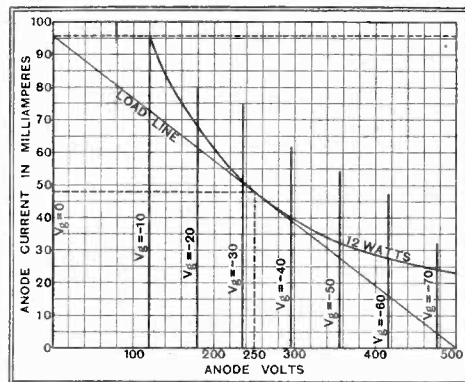
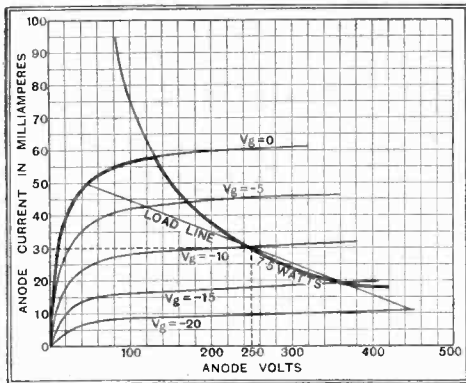

Fig. 4.—An unattainable ideal; the load diagram for a perfect valve.
Fig. 6.—Showing why a pentode is inherently more efficient than a triode.
Looking about, as we all must be in these days, for causes of waste, we see that if the left-hand boundary were removed the load-line area could expand without affecting the input power area. To make the boundary disappear the valve curves would have to be vertical, and as a vertical line means zero resistance, it is the same thing as saying that the valve would have to have no A.C. resistance. This is not practicable, but Fig. 4 shows what the diagram for a perfect valve would look like. It is quite obvious that the load-line area is four times as great as the input power area, so the output is half as great as the input. Thus the maximum efficiency even of a perfect valve is only 50 per cent., provided there is no distortion.
**How to Use Valve Load Diagrams.**— efficiency of a triode valve, and Fig. 4 the maximum in an ideal theoretical valve. There is, however, a better approximation to the latter than the triode, and Fig. 6